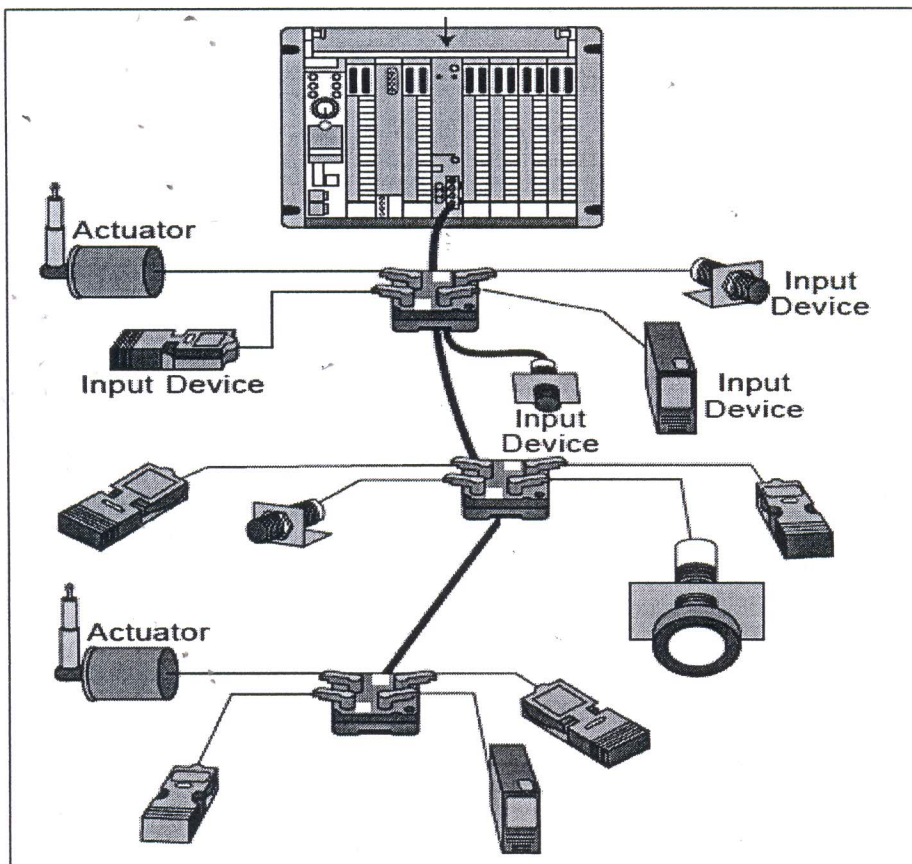

Figure 6: A system without proper industrial network protocol
- a) Based on **Figure 6**, give suggestions to improve the industrial network system. Your answer should focus on the industrial network protocol and must support with the diagram
- b) If controller link is implemented to the system in **Figure 6**, draw a data link table with two PLC (Programmable Logic Controller). Use suitable address to show a different layer between internal bit and data word.